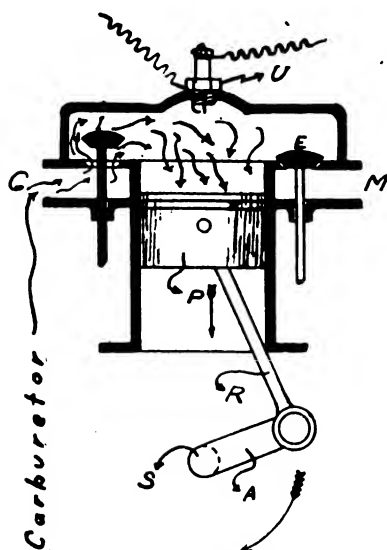

Figure 1
Referring to Figure 1, we see the gas coming from the carburetor through the port (G) and the valve (I) into the cylinder, the combustion chamber of which is shown out